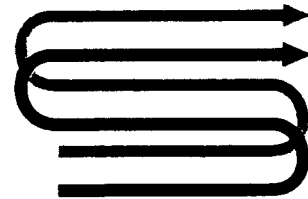
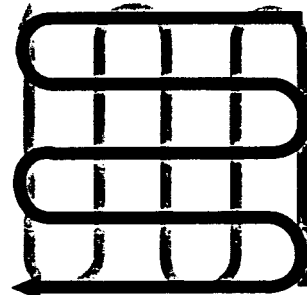

Figure 4-6
Figure 4-7
- When preparing a seedbed, go over the same path twice in the first row, then overlap one-half the tiller width on the rest of the passes (see Figure 4-6). When finished in one direction, make a second pass at a right angle as shown in Figure 4-7. Overlap each pass for best results (in very hard ground it may take three or four passes to thoroughly pulverize the soil).